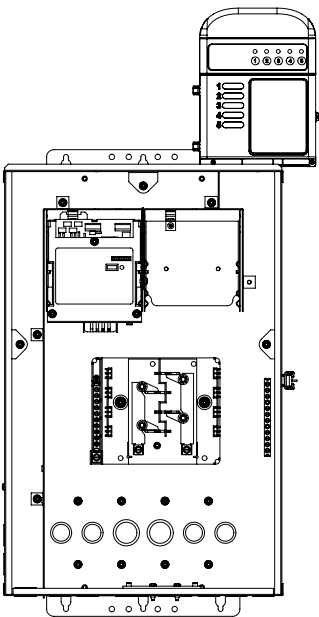

Figure 2. PE30000 Series Load Center.
3. Install the mechanism in the applicable MultiWave device. See Figures 2 through 4.